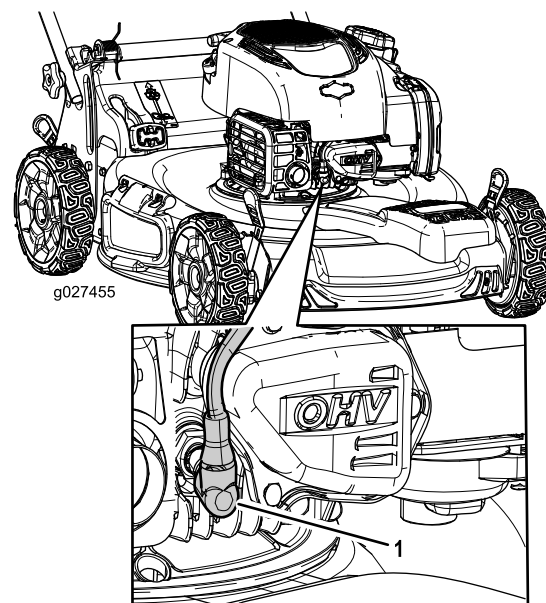

Figure 25
- Disconnect the spark-plug wire from the spark plug (Figure 25).